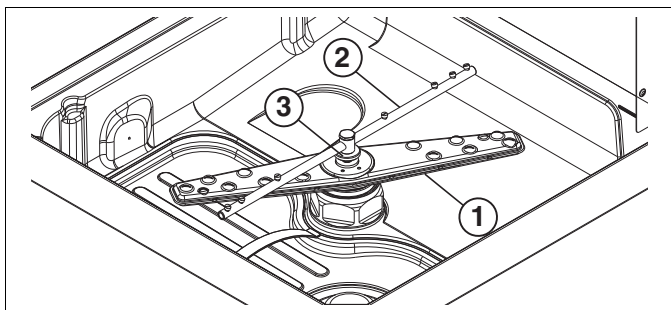

Figure 24 Wash and rinse arms
- Remove the upper and lower wash arms "1" and rinse arms "2", undoing the ring nut "3" (Figure 24).